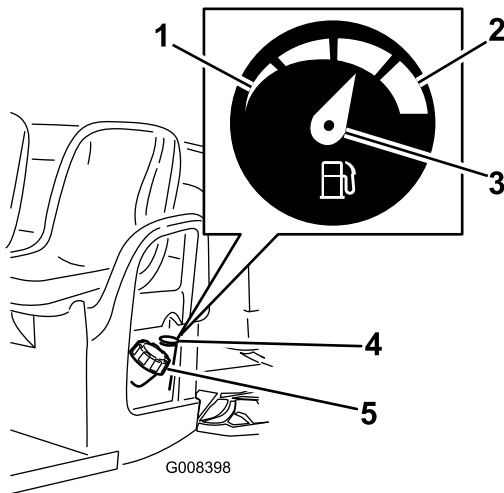

Figure 13
4. Clean the area around the fuel-tank cap (Figure 13).